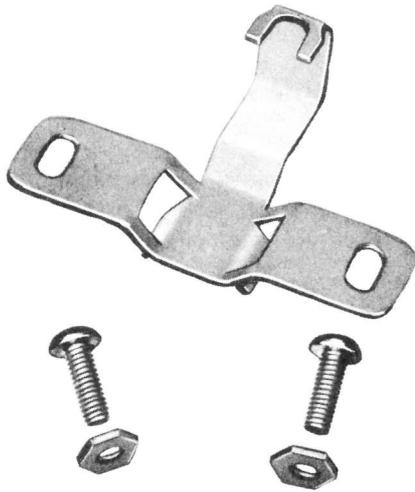

Fig. 24—90A Bracket
- 90A bracket (Fig. 24)—use with 123B1A or 128A1A-2 protectors for indoor location